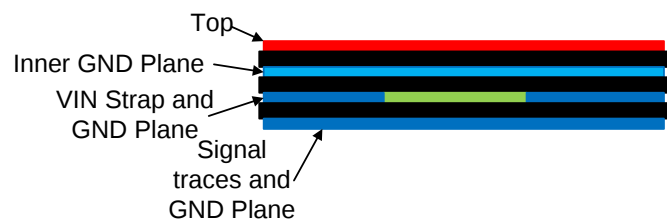

Figure 55. Example Layout for VQFN Package
The PCB layout of any DC/DC converter is critical to the optimal performance of the design. Bad PCB layout can disrupt the operation of an otherwise good schematic design. Even if the converter regulates correctly, bad PCB layout can mean the difference between a robust design and one that cannot be mass produced. Furthermore, the EMI performance of the regulator is dependent on the PCB layout, to a great extent. In a buck converter the most critical PCB feature is the loop formed by the input capacitor(s) and power ground, as shown in Figure 54. This loop carries large transient currents that can cause large transient voltages when reacting with the trace inductance. These unwanted transient voltages will disrupt the proper operation of the converter. Because of this, the traces in this loop should be wide and short, and the loop area as small as possible to reduce the parasitic inductance. Figure 55 shows a recommended layout for the critical components of the LMR33620-Q1.
1. **Place the input capacitor(s) as close as possible to the VIN and GND terminals.** VIN and GND pins are adjacent, simplifying the input capacitor placement. With the VQFN package there are two VIN/PGND pairs on either side of the package. This provides for a symmetrical layout and helps to minimize switching noise and EMI generation. A wide VIN plane should be used on a lower layer to connect both of the VIN pairs together to the input supply; see Figure 55.